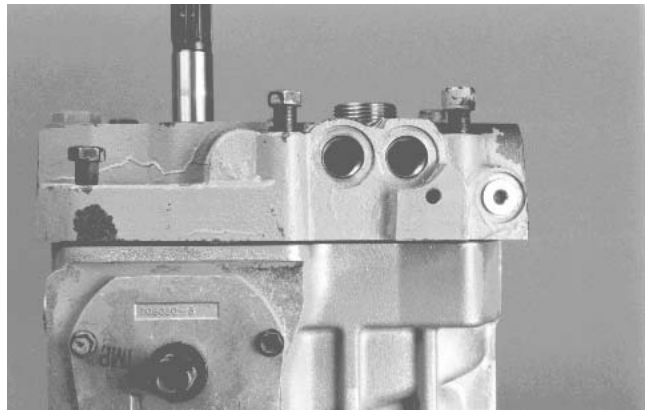

Figure 72
20. Install center section with valve plates onto transmission housing (Fig. 72).